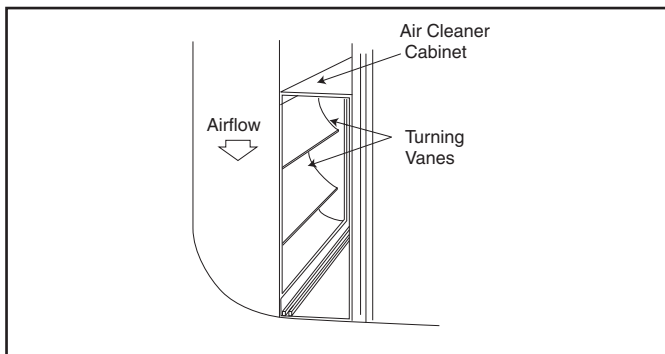

Figure 9 Turning Vanes
7. It is recommended that sheet metal turning vanes be installed inside an elbow on ductwork attached to the entering airstream side of the air cleaner. This improves the air distribution over the COLLECTION CELLS. See Figure 9.
NOTE: It is recommended that sheet metal turn-ing vanes be installed inside an elbow on ductwork attached to the entering airstream side of the air cleaner. See Figure 9 on Page 4.